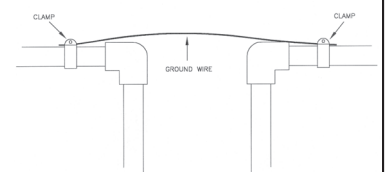

Figure 6:
STEP 2SS – Choose the desired program by pressing the UP or DOWN buttons. Prior to selecting a program, verify the correct valve body, main piston, regenerant piston, and stack are being used, and that the injector or injector plug(s) are in the correct locations. See Compliance Table in Service Instructions under Injector Cap, Screen, Injector Plug and Injector section and Figure 6. Press SET HOUR button to go to Step 3SS.